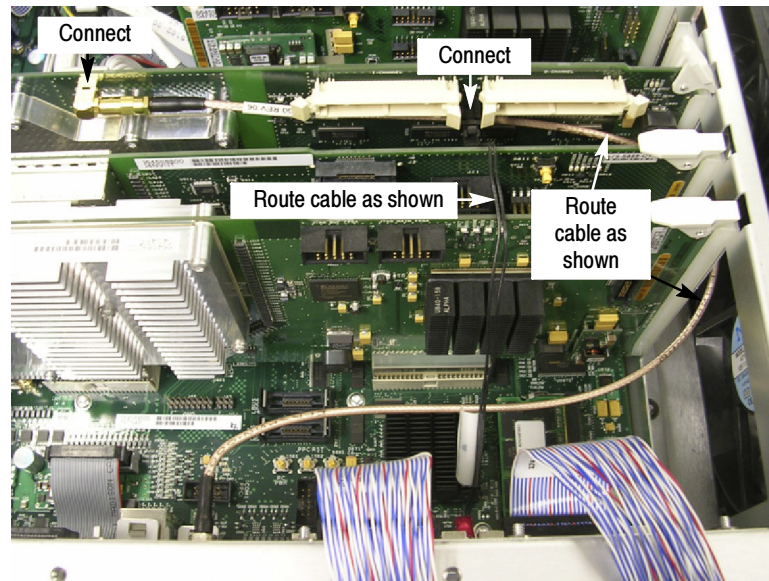

Figure 6: Connecting IF Output and ground cables to the RTIQ board
1. Use the board ejectors to lift the RTIQ board up out of its slot. Route the IF Output cable around the side and back in between Slots 2 and 3, then connect to the SMB connector on the RTIQ Board (see Figure 6). Connect the ground cable to the 2-pin connector on the RTIQ Board as shown in Figure 6.